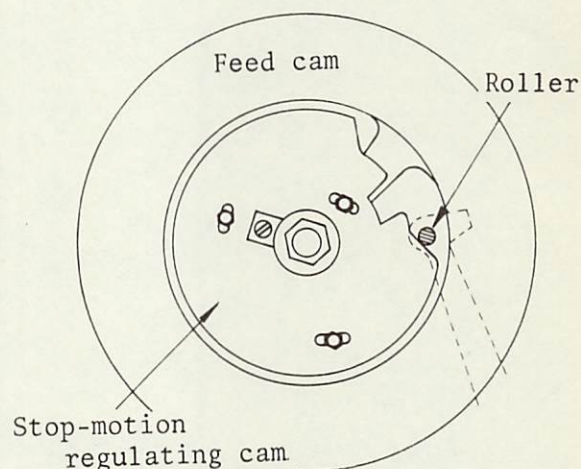

Fig.36a
- \* When the clearance of the driving pulley pressing plate is too big, the machine will rotate at low speed but it does not rotate at high speed or slips. So, in such a case rotate the driving pulley with the hand and when the roller came to the position as shown in Fig.36a, adjust the driving pulley pressing plate adjusting screw so that the brake cork ring rotates idly  $1/4 \sim 1/2$  turns.